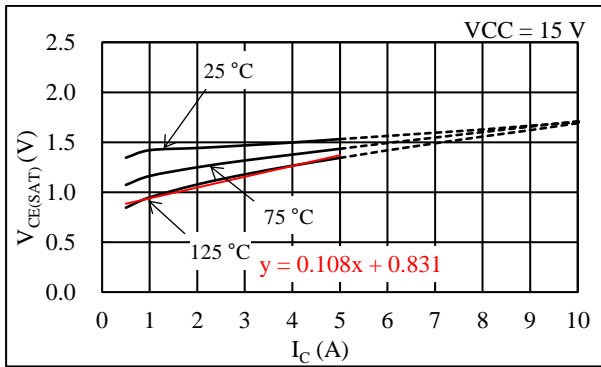

Figure 14-1. Linear Approximate Equation of $V_{CE(SAT)}$ vs. I_C
Steady-state loss in an IGBT can be computed by using the V_{CE(SAT)} vs. I_C curves, listed in Section 15.3.1. As expressed by the curves in Figure 14-1, a linear approximation at a range the I_C is actually used is obtained by: V_{CE(SAT)} = α × I_C + β. The values gained by the above calculation are then applied as parameters in Equation (4), below. Hence, the equation to obtain the IGBT steady-state loss, P_{ON}, is: